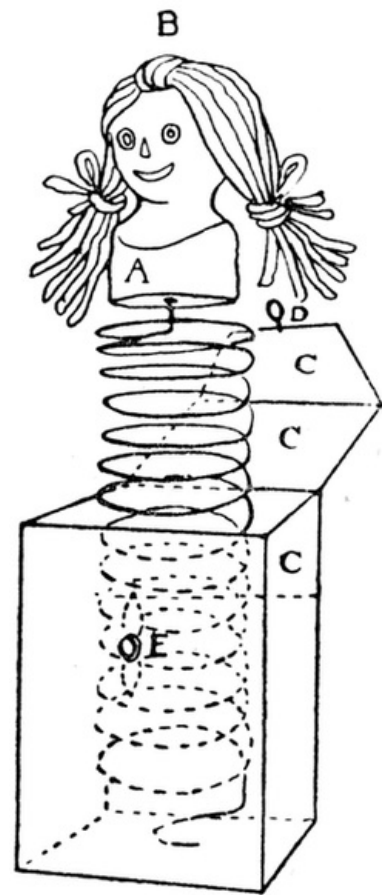

FIG. 423
**A Jack-in-the-box.** The simplest way of making a Jack-in-the-box is the following. Get some ordinary wire (quite thin wire will do) about 4 feet long or longer if a bigger jump is required. Wind this tightly round a broom handle, keeping the rings of wire close together. Slip it off. Take a cork, cut it so that it is about  $1\frac{1}{4}$  inches high. File it round in the shape of a head as in Fig. 423. Mark the eyes and nose in ink, the mouth with red paint; or two beads can be glued in for the eyes. To make the hair, cut several short pieces of black wool, tie them in the middle at B, and glue or pin them to the middle of the head; tie back the side ends with yellow or red wool as in the figure. Fasten one end of the wire spring in the centre of bottom of cork, as at A. A piece of muslin is then gummed round the cork to hide the spring, so that it is loose and folds easily.